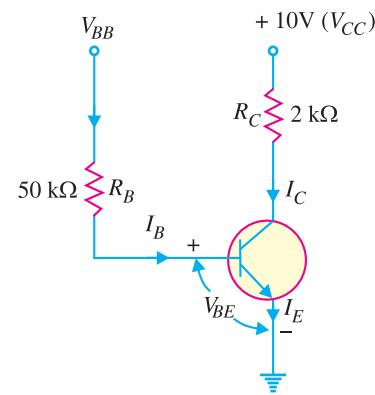

Fig. 8.57
**Example 8.35.** For the circuit in Fig. 8.57, find the base supply voltage ( $V_{BB}$ ) that just puts the transistor into saturation. Assume  $\beta = 200$ .